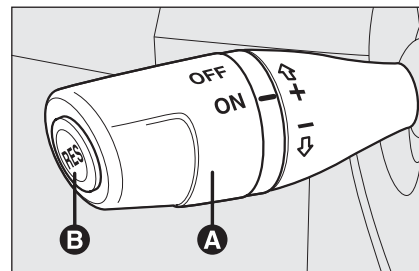

fig. 47
Turn knob **A**-fig. 47 to **ON**.
- turn knob **A**-fig. 47 to **ON** and press the accelerator pedal to the required speed;
- press **RES B-fig. 47**.
- by pressing the accelerator pedal; in this case the system is not really switched off but the request for acceleration takes priority over the system. The cruise control is however active and it will not be necessary to press button **RES B-fig. 47** to resume previous conditions after ending acceleration.